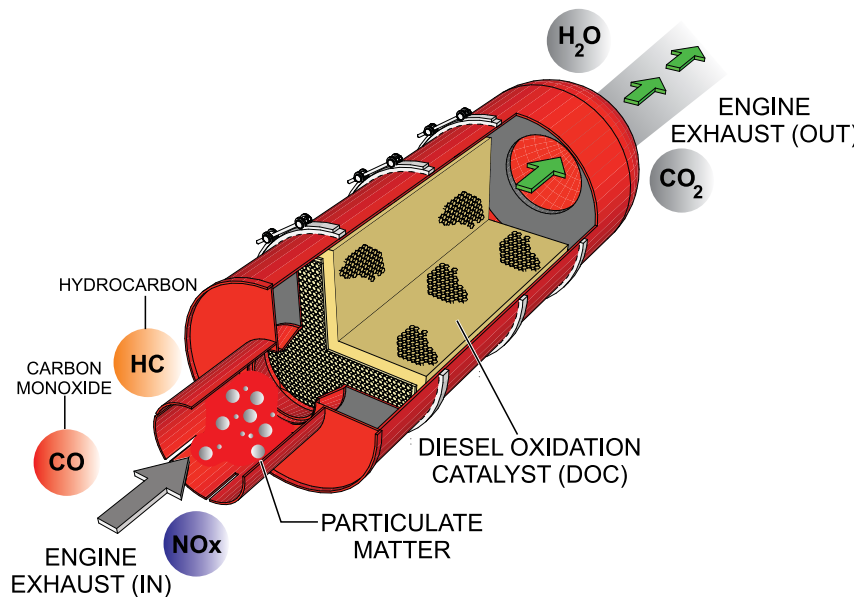

Figure 66. Diesel Oxidation Catalyst (DOC)
The DOC device (Figure 66) helps in filtering out large amounts of harmful **Nitrogen Oxides (NOx)** and **Particulate Matter (PM)** which are emitted by diesel engines. These exhaust emissions pose serious environmental and health risks. It is important to maintain and service the DOC emission safety device on a periodic basis.